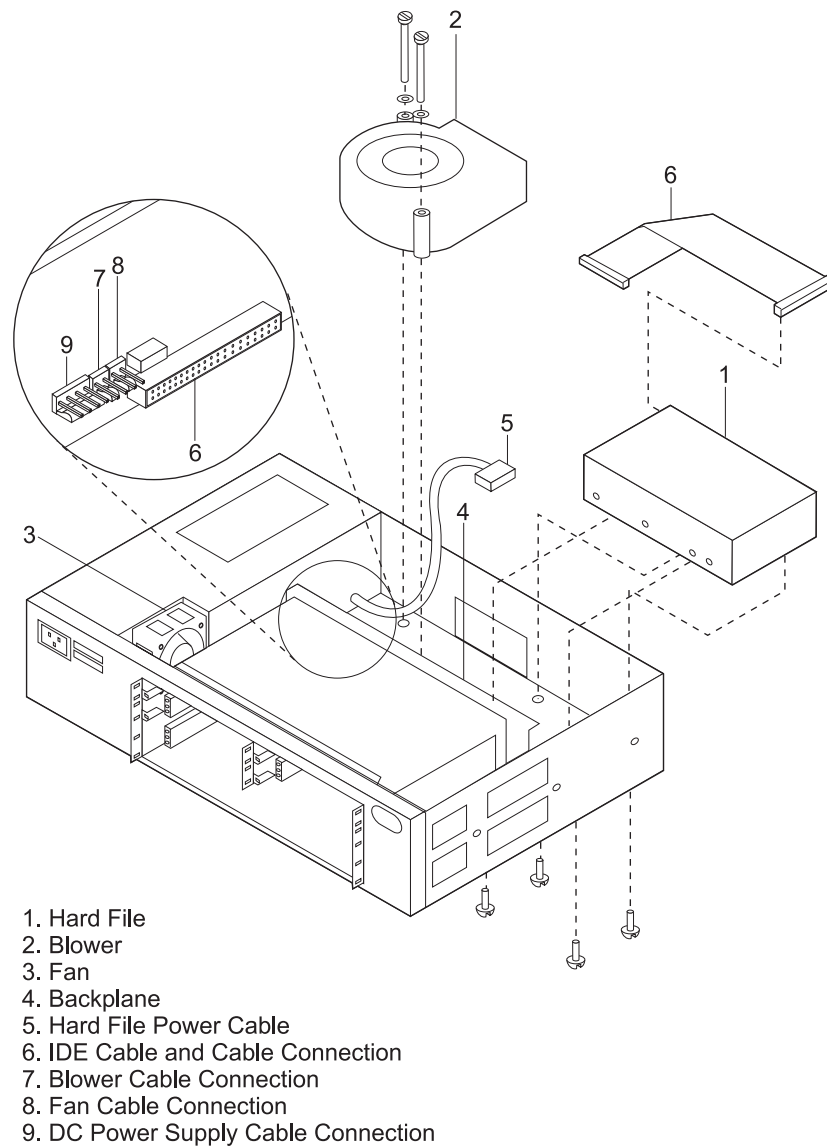

Figure 2-11. Model 4xx Chassis with a Hard File
5. Connect the hard file IDE (flat ribbon) cable to the backplane. Route the hard file cable so it lies flat under the blower. (See Figure 2-11.)